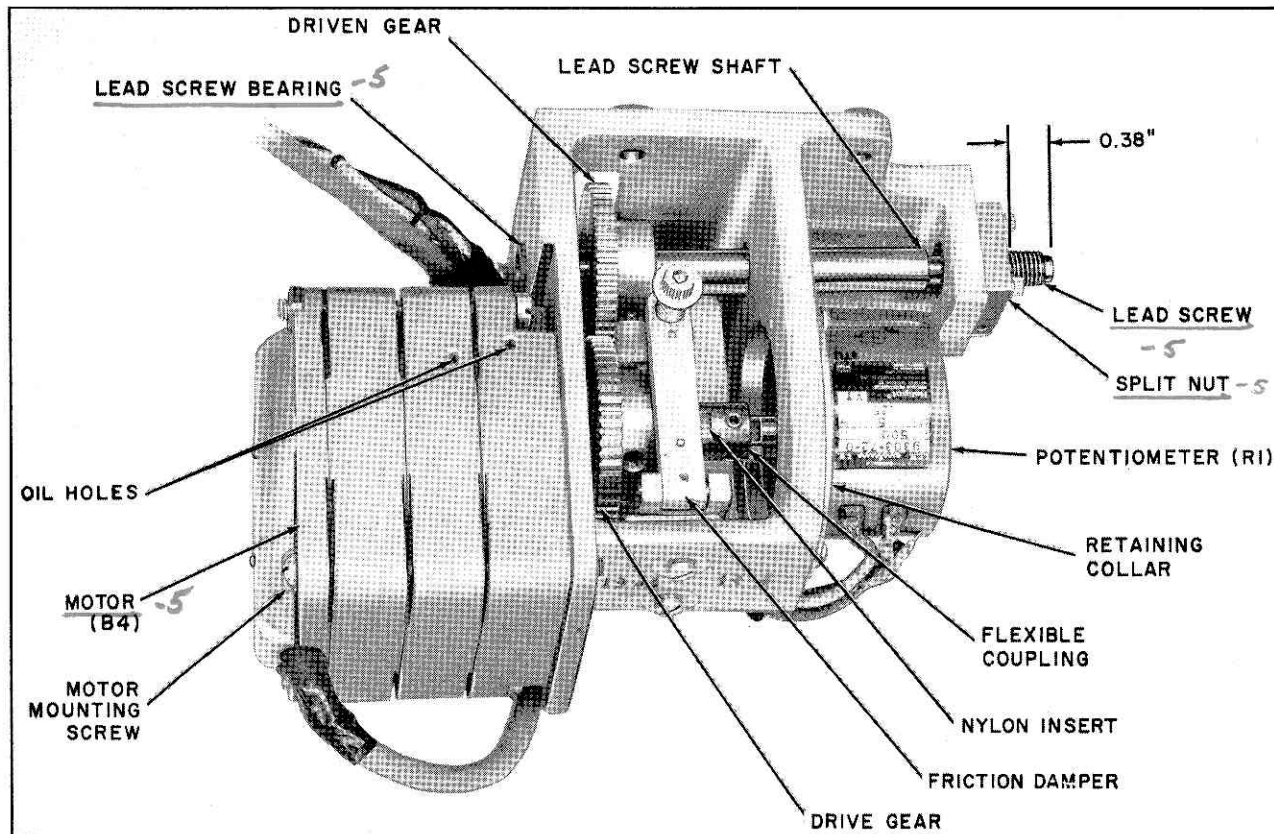

Figure TTP-11. Vacuum Guide Positioner
**Vacuum Guide Positioner Motor.** When removing or replacing the positioner motor mark the position of the motor shaft and potentiometer so that they can be kept in their correct rotational positions. To replace the motor proceed as follows (fig. TTP-11).
1. Loosen the two socket-head set screws in the driven gear, refer to figure TTP-11.
4. Roughly adjust the shaft to obtain a dimension of 0.38 of an inch between the rounded face of lead screw and the face of the split nut, refer to figure TTP-11. When this dimension is obtained the faces of the gears must be flush within 0.03 of an inch. Tighten the set screws in the gear and be sure that they engage the flats on the shaft. The wiper arm of the potentiometer should be midway in its travel within 20° (1.75 turns from the end).
1. Remove the complete vacuum guide motor assembly (fig. TTP-11) by removing the four socket-head screws holding it to the tape transport panel. If necessary remove the wires going to terminal board TB6-6.